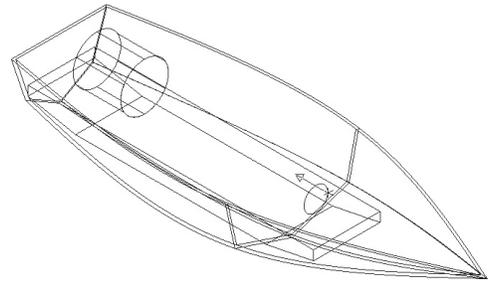

Fig. 15
Step 8. The direction arrow the chain should **point back**, **Fig. 15**. If the arrow points in the wrong direction, click Reverse It.